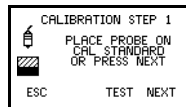

Figure 24. Step 1 - on thickness standard
1. Hold probe in air and press **CAL** softkey (Figure 24).